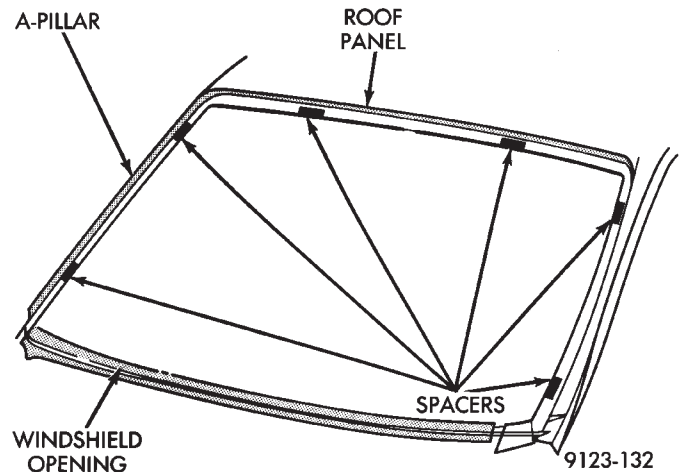

Fig. 4 Position Urethane Compression Spacers—Typical
- (10) Clean inside of windshield with ammonia based glass cleaner and lint-free cloth.
- (11) Apply molding to perimeter of windshield.
- (12) Apply Glass Prep adhesion promoter 25 mm (1 in.) wide around perimeter of windshield and wipe with clean/dry lint-free cloth until no streaks are visible.
- (13) Apply Glass Primer 25 mm (1 in.) wide around perimeter of windshield. Allow at least three minutes drying time.
- (14) Using a razor knife, remove as much original urethane as possible. Do not damage paint on windshield fence.
- (15) Apply pinch weld primer 15 mm (.75 in.) wide around the windshield fence. Allow at least three minutes drying time.
- (16) If a low viscosity urethane adhesive is used, install compression spacers on the fence around the windshield opening at original locations (Fig. 4).
- (17) Apply a 10 mm (0.4 in.) bead of urethane on centerline of windshield fence.
- (18) With the aid of a helper, position the windshield over the windshield opening. Align the reference marks at the bottom of the windshield to the support spacers.
- (19) Slowly lower windshield glass to windshield opening fence. Guide the molding into proper position